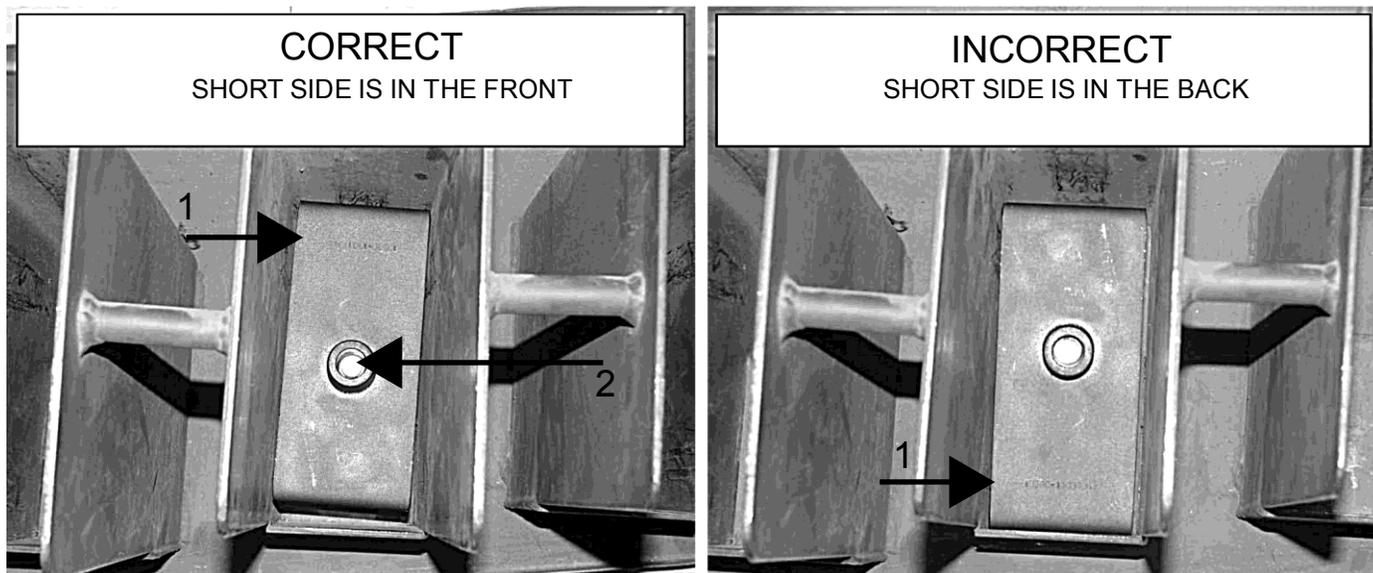

Figure 6. Correct Placement of Mounting Bracket into Arms Rack Boot.
- Place the mounting bracket into the arms rack boot with the part number identification (Figure 6, Item 1) facing upward to the rear of the arms rack boot (bolt head facing downward), and with the tube and bolt (Figure 6, Item 2) off-center toward the front of the rack.